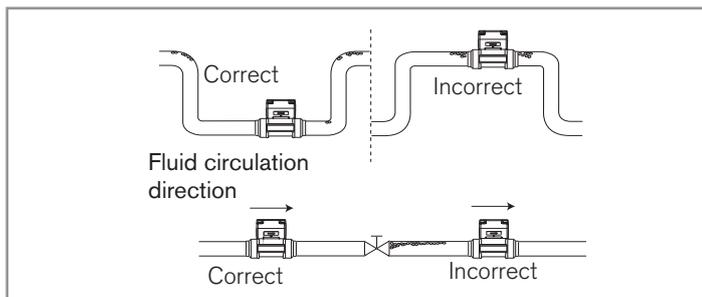

Fig. 4: Air bubbles within the pipe
- Prevent the formation of air bubbles in the pipe in the section around the device (Fig. 4).